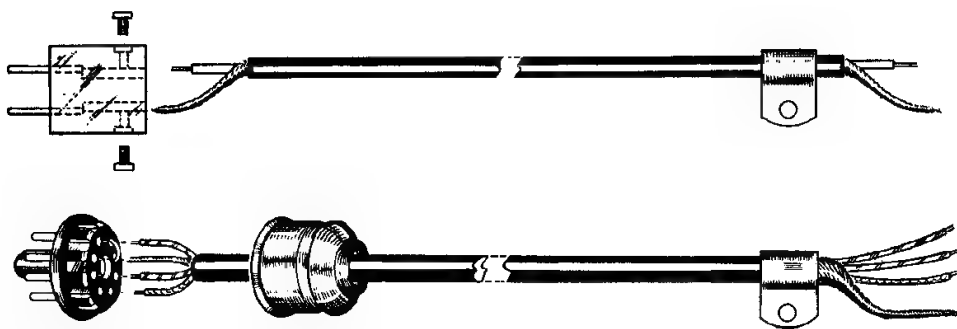
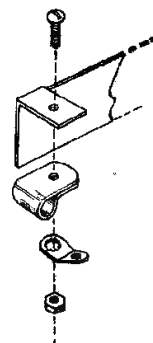

Figure 8
Figure 9
- ~~X (✓)~~ Strip 1" of the outer coating from both ends of the coaxial cable, comb out and twist the shield braid as shown in Figure 8.
- X (✓) Mount the cable clamp to the clamp bracket and include a soldering lug in the mounting as shown in Figure 9.
- X (✓) Connect a .005 disc ceramic capacitor from the solder lug (NS) to G1 (NS).
- X (✓) Twist the shield braid together and connect to the solder lug (NS).
- X (✓) Connect the inter coax conductor to the 100 μmf capacitor coming from A5 (NS). See Pictorial 3.
- (✓) Connect a 47 K Ω resistor (yellow-purple-orange) from this point (S) to the solder lug (NS).
- (✓) Connect a bare wire to the same solder lug (S). Run the wire along the back of the chassis through G3 (S). Leave 1" extended free past G3.
- (✓) Connect free end of the 1.1 mh RF choke to G1 (S).
- (✓) Place a 1/4" cable clamp over the outer covering as shown in Figure 9.
- (✓) Insert the cable through grommet E2 and secure the cable clamp and a solder lug to the bracket in the same manner used with the coaxial cable. See Figure 9 and Pictorial 3.
- (✓) Twist the shield braid together and connect to the adjacent solder lug (NS). Cut off excess braid.
- (✓) Connect the wire coming from G3 to the solder lug (S).
- (✓) Connect the red wire to J2 (S).
- (✓) Connect the green wire to J4 (S).
- (✓) Connect the yellow wire to J1 (S).
- (✓) Refer to Figure 8 and prepare the remaining end of the coaxial cable as shown.
- (✓) Slide the octal socket cap over the wire as shown in Figure 8 with the large end toward the wire end.